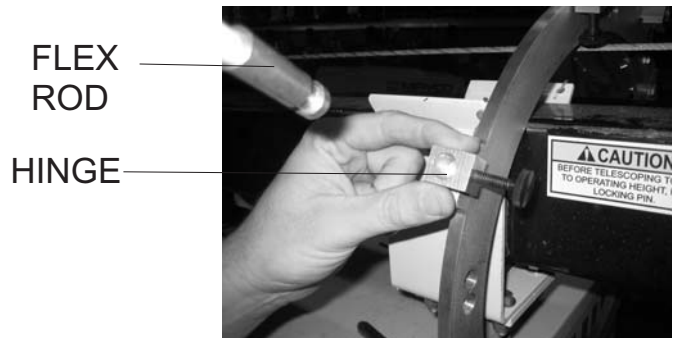

Figure 9. Attaching Flex Rod
10. Connect the first flex rod from the balloon assembly to a hinge on the ring and tighten with the screw (see Figure 9).